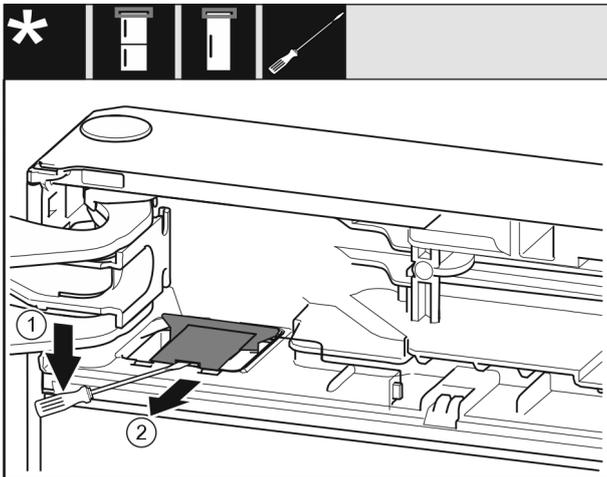

Fig. 13
- ▶ Use a flat-blade screwdriver to disengage the cover Fig. 13 (1).
- ▶ Remove the cover Fig. 13 (2).